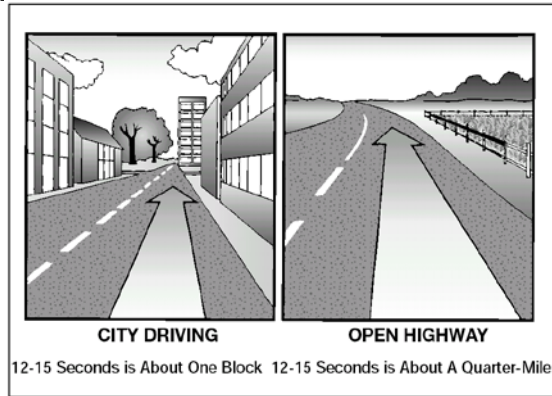

Figure 2.6
**How Far Ahead to Look.** Most good drivers look at least 12 to 15 seconds ahead. That means looking ahead the distance you will travel in 12 to 15 seconds. At lower speeds, that's about one block. At highway speeds it's about a quarter of a mile. If you're not looking that far ahead, you may have to stop too quickly or make quick lane changes. Looking 12 to 15 seconds ahead doesn't mean not paying attention to things that are closer. Good drivers shift their attention back and forth, near and far. Figure 2.6 illustrates how far to look ahead.